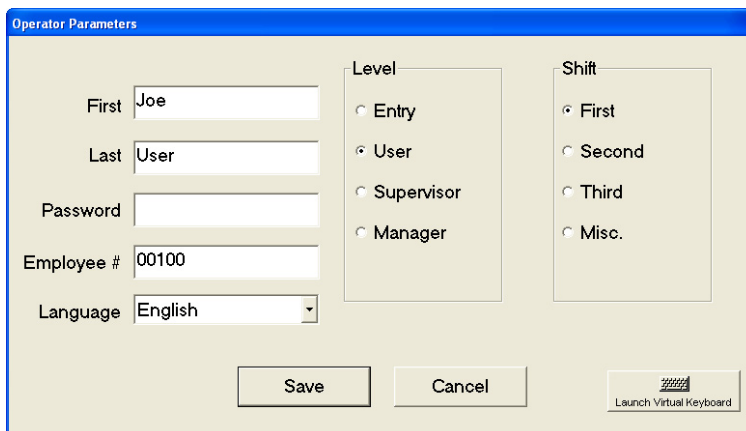

FIGURE 25: Operator information
- 3 Edit the operator information as shown in Figure 25 and click **Save**.